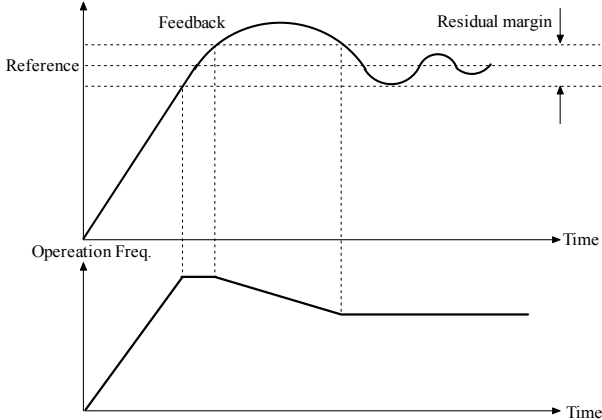

Fig. 5-7-1 Residual margin diagram
- ◆If the residual between feed and feedback value is smaller than residual margin, PID regulation will stop and the PID output maintain constant. As shown in Fig. 5-7-1.
- ◆If analog PID is selected, the setting of residual margin (P7.09) is the absolute value of physical value, and it must match the measuring range. If speed PID is selected, the setting of P7.09 is speed. As shown in Fig.5-7-1: